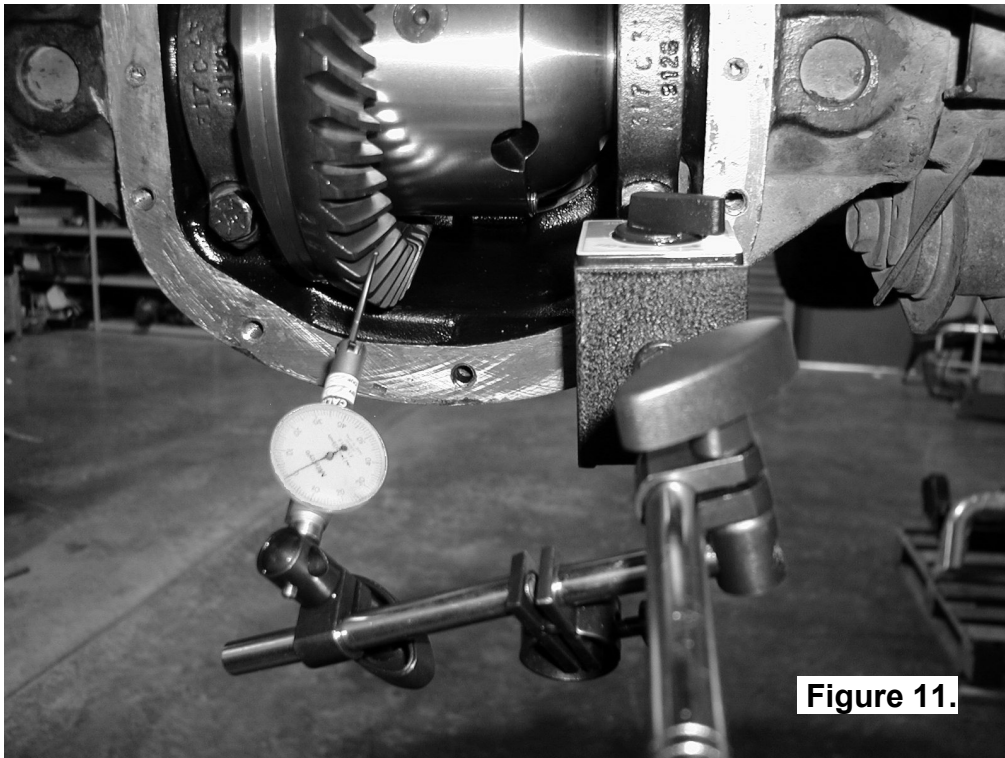

Figure 11.
- ☐ Set a depth indicator on one of the ring gear teeth as in Figure 11.